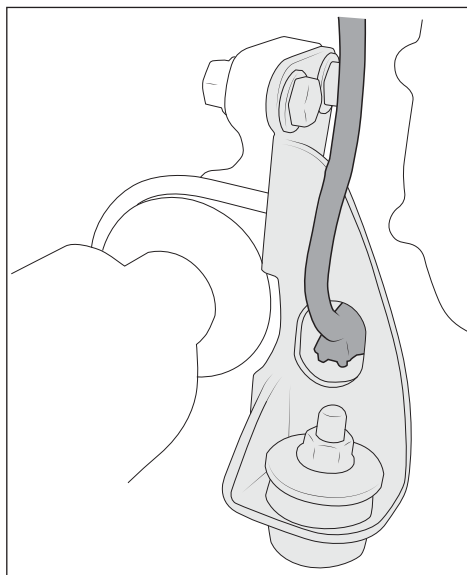

Figure 19
- E. Plug wire harness back in through hole in bracket (fig. 19).